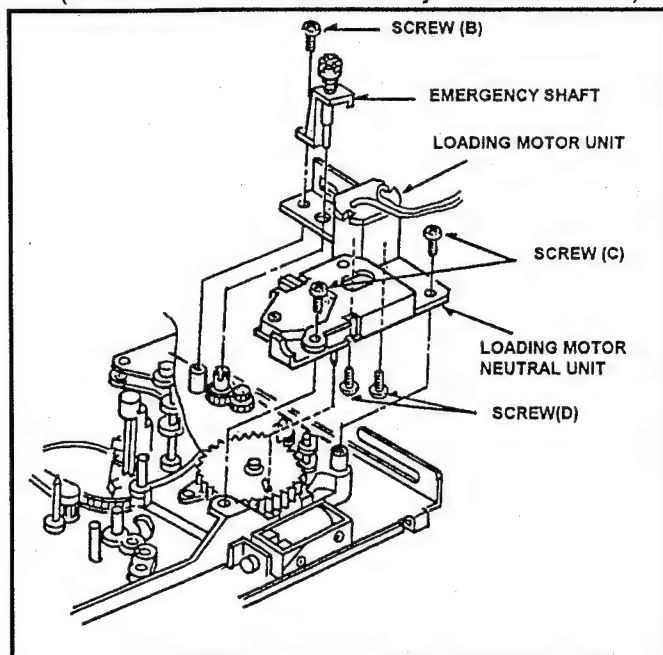

Fig. M11
3. Remove the Pinch Solenoid and Pinch Solenoid Lever. (Refer to item 4 & 5).
4. Unscrew the screw (B) to remove the Emergency Shaft as shown in Figure M11.
5. Unscrew the 2 screws (C) to remove the Loading Motor Neutral Unit as shown in Figure M11.
6. Unscrew the 2 screws (D) to remove the Loading Motor Unit as shown in Figure M11.